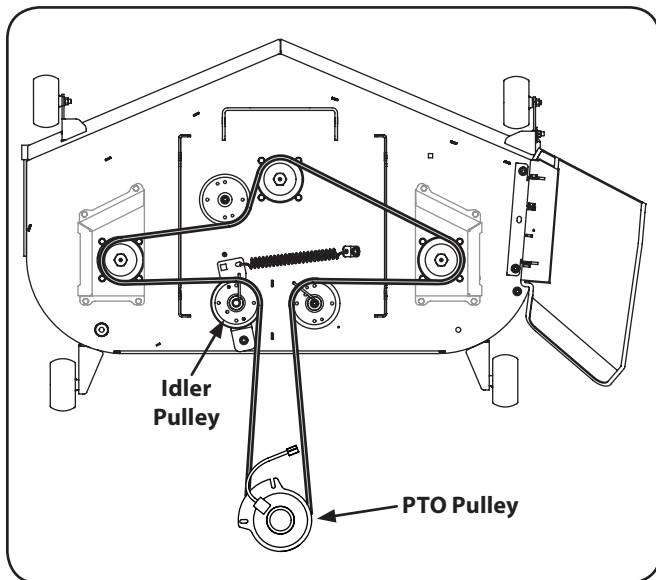

Figure 7-9
- Route the belt as shown in Fig. 7-9. After routing the belt around the PTO pulley, use a $\frac{1}{2}$ " drive in the idler pulley bracket and turn towards the back of the tractor to finish routing the belt around the idler pulley.
3. Remove the belt from the spindle pulleys. Refer to Fig. 7-9.
4. Install the new belt around the spindle pulleys as shown in Fig. 7-9 and reinstall the belt covers.
2. Remove the hex washer screws securing the belt covers to the deck and remove the belt from the spindle pulleys. Refer to Fig. 7-9.